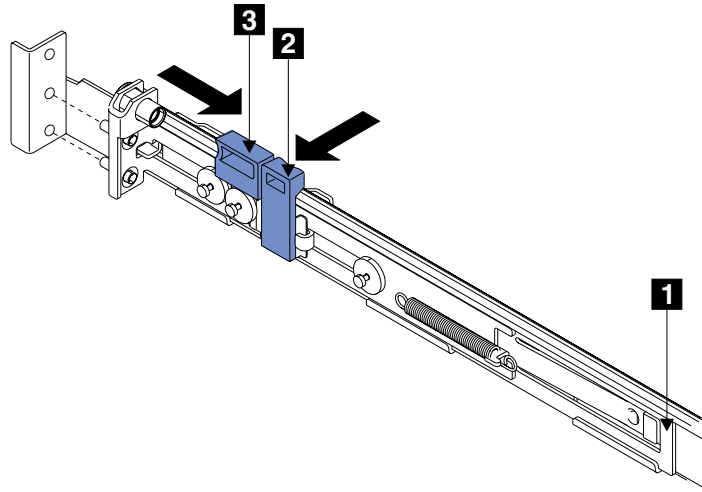

Figure 114. Opening the back latch-lock carrier assembly
7. Push the back rail bracket **1** (Figure 114) toward the front of the rail until it stops. The rail is now at its shortest adjustment.
14. Push the back rail bracket **1** (see Figure 114 on page 163) toward the rear of the rack and align the locating pins with the rack-mounting flange.
15. Push the latch lock **2** (see Figure 114 on page 163) away from the rail to release the carrier. The latch-lock carrier slides toward the rear of the rack, and the locating pins project through the holes that are in the rear flange and in the rear rail bracket.